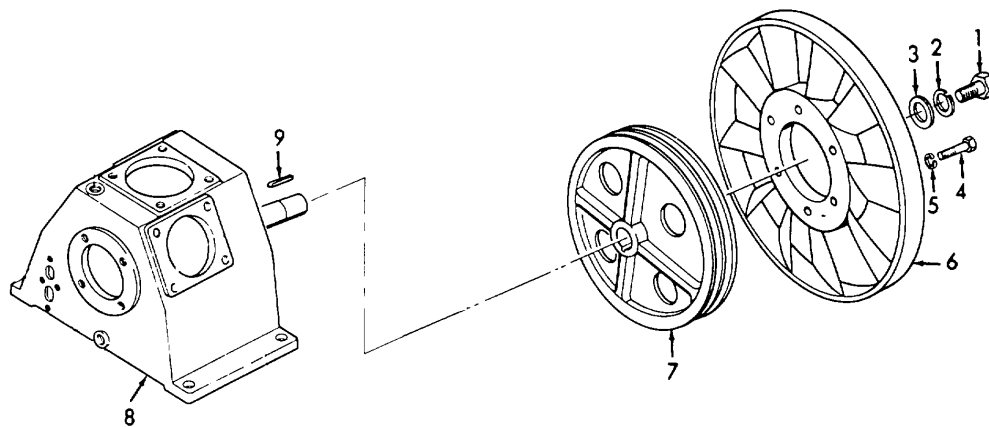

Figure 3-24. Compressor Pulley and Fan, Installation.
(1) Inspect for missing or damaged hardware.
(2) Inspect compressor pulley for damage.
e. Installation. (Refer to Figure 3-24).